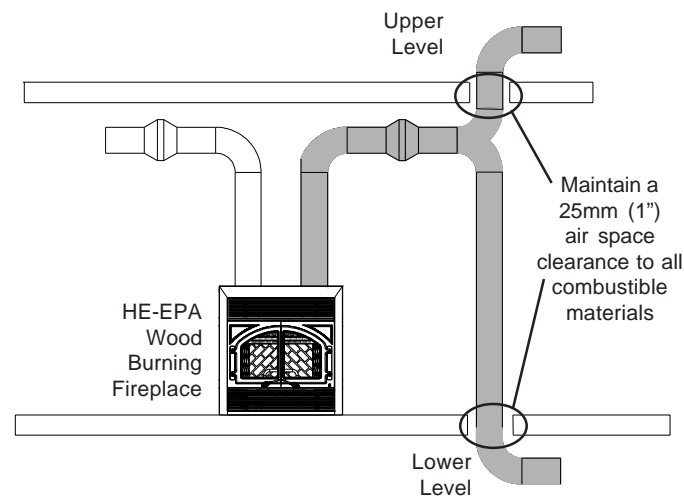

Figure 6 - Shaded Alternate Ducting Configurations
7. When installing the ducting a 25mm (1") minimum air space clearance to all combustible materials must be maintained. Ensure that the installation of the ducting will conform with all federal and municipal codes requirement. See Figure 6 for alternate ducting configuration.